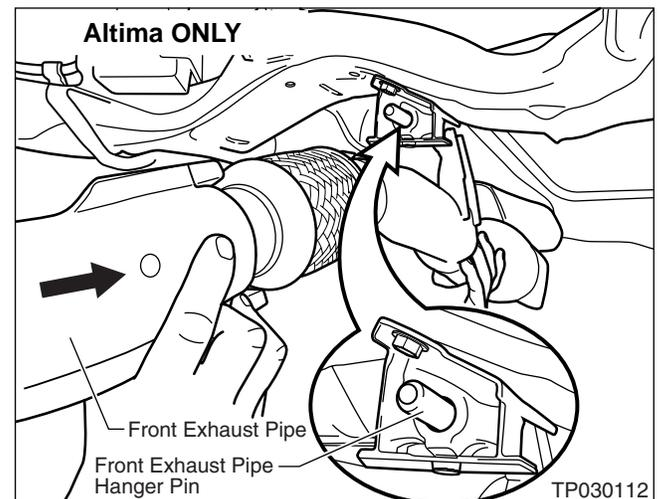

Figure D3
3. **This Step For Altima ONLY:** Slide the Front Exhaust Pipe Hanger Pin out of the Front Exhaust Pipe Hanger (see Figure D3).